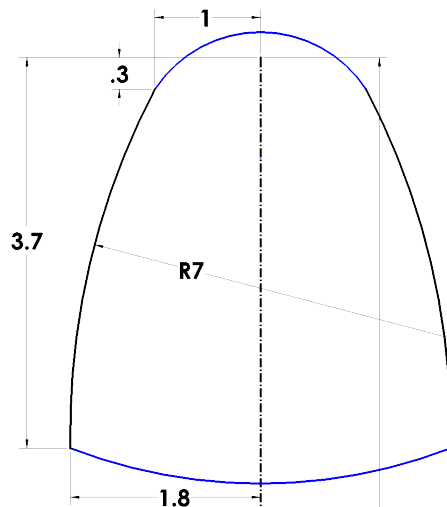

Fig. 8
Step 1. Click **3 Point Arc**  (S) in the **Arc flyout**  on the Sketch toolbar.
Step 2. Sketch an arc across top endpoints of arcs and a second arc across bottom endpoints of arcs, **Fig. 8**.